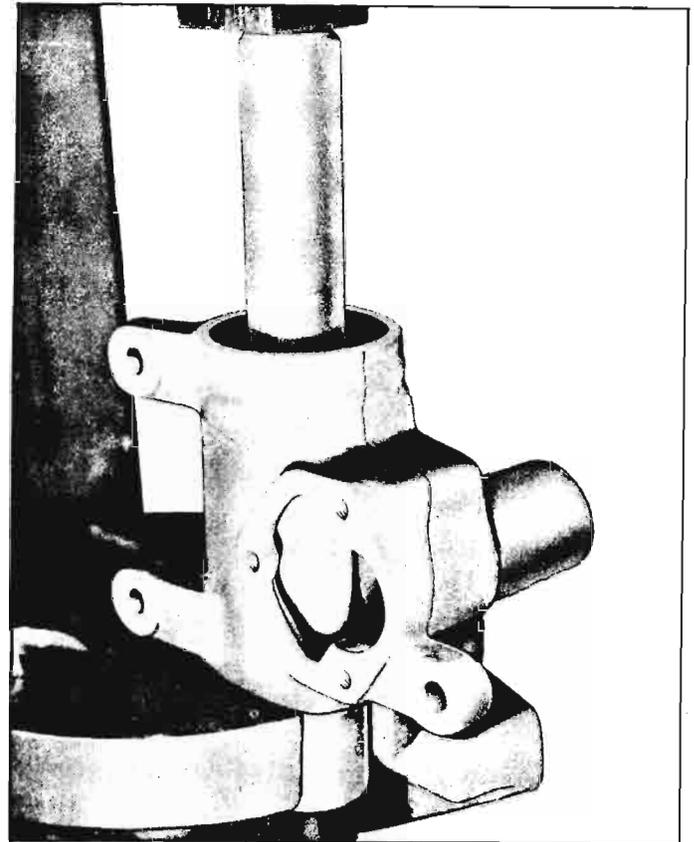

Fig. 4-49—Installing Cup with J-5755
- 2 Press new bearing cups into position using Tool J-755 (fig. 4-49).